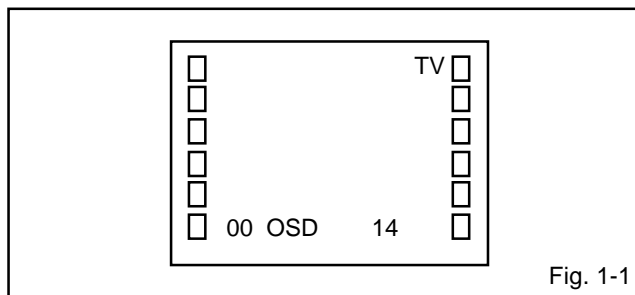

Fig. 1-1
1. In the condition of NO indication on the screen. Press the VOL. DOWN button on the set and the Channel button **(9)** on the remote control for more than 2 seconds to appear the adjustment mode on the screen as shown in **Fig. 1-1**.
4. Activate the adjustment mode display of **Fig. 1-1** and press the channel button **(01)** on the remote control to select "CUT OFF".
4. Activate the adjustment mode display of **Fig. 1-1** and press the channel button **(10)** on the remote control to select "R.BIAS".
3. Activate the adjustment mode display of **Fig. 1-1** and press the channel button **(06)** on the remote control to select "V. SIZE".
3. Activate the adjustment mode display of **Fig. 1-1** and press the channel button **(05)** on the remote control to select "H.PHASE".
3. Activate the adjustment mode display of **Fig. 1-1** and press the channel button **(17)** on the remote control to select "CONT MAX".
8. Activate the adjustment mode display of **Fig. 1-1** and press the channel button **(17)** on the remote control to select "CONT MAX".
1. Activate the adjustment mode display of **Fig. 1-1**.
3. Activate the adjustment mode display of **Fig. 1-1** and press the channel button **(13)** on the remote control to select "BRI CENT".
4. Activate the adjustment mode display of **Fig. 1-1** and press the channel button **(19)** on the remote control to select "COLOR CENT".